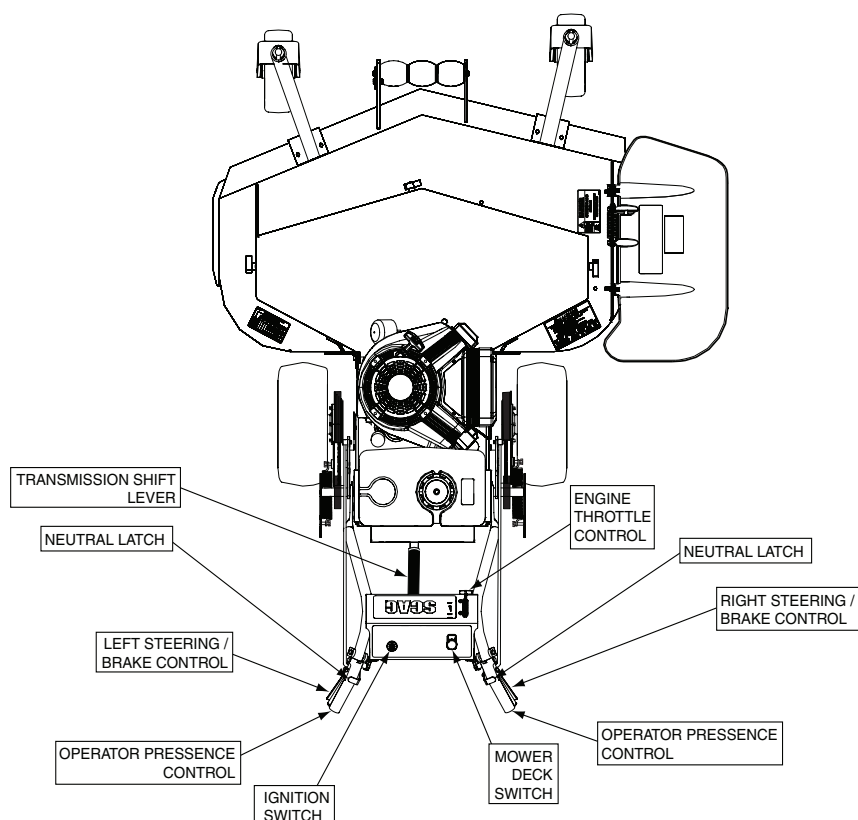

Figure 4-1. Controls and Instruments
1. Ignition Switch (Figure 4-1). The ignition switch is used to start the engine. Turn the key to the on position before pulling the recoil starter.
2. Mower Deck Switch (Figure 4-1). Used to engage and disengage the mower drive system. Pulling up on the switch will engage the deck drive. Pushing down on the switch will disengage the deck drive.
3. Engine Choke Control (Figure 4-1). Used to start a cold engine.
4. Engine Throttle Control (Figure 4-1). Used to control the engine speed. Pushing the lever forward increases engine speed. Pulling the lever back decreases engine speed. Full back position is the IDLE position. Full forward is the cutting position.
5. Left Steering / Brake Control (Figure 4-1). Used to control the mower's left wheel when traveling forward or reverse. Pull upward to apply brake.
6. Right Steering / Brake Control (Figure 4-1). Used to control the mower's right wheel when traveling forward or reverse. Pull upward to apply brake.
7. **Transmission Shift Lever (Figure 4-1).** Used to select the forward speed or selecting reverse. The machine must be at a complete stop before shifting between gears or shifting between forward and reverse.
8. **Neutral Latch (Figure 4-1).** Used to secure the belt drive system in neutral. Apply neutral latches when parking the machine.
9. **Operator Presence Control (Figure 4-1)**